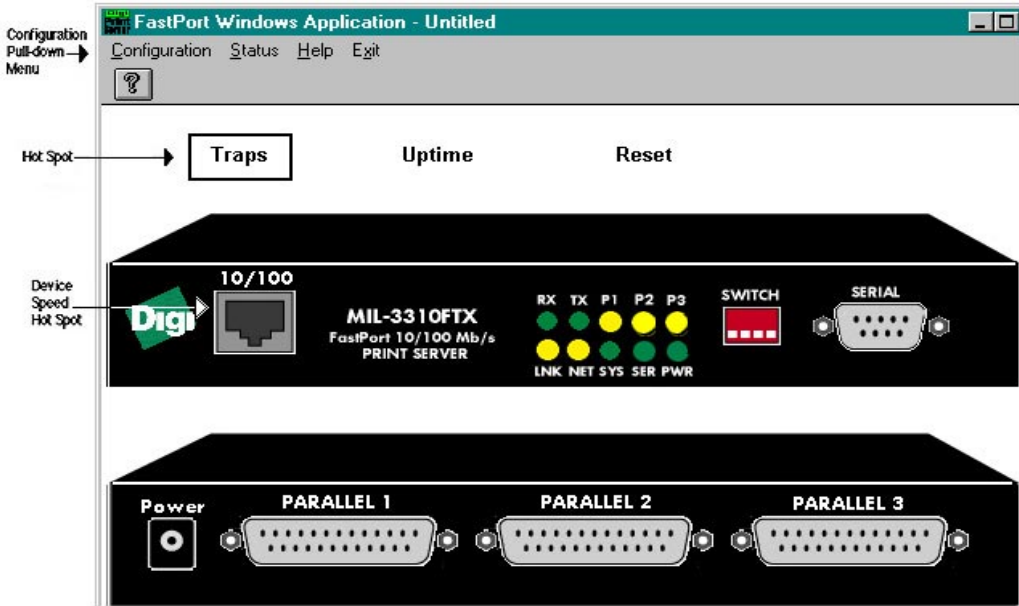

Figure 3-2. MIL-3310FTX Graphical Icon
- c. Double-click on a thumbnail to display a full-screen image of a particular SNMP device (Figure 3-2).
- c. A full-screen image appears (Figure 3-2).
Hot spots on the graphical representation of a MIL-3000FTX graphic (Figure 3-2) are used to gain status of the device. Use the mouse to highlight the selection (a block around the area appears), and click on it to obtain the information. Hot spots function the same way on all FastPorts.
- **Device speed:** This option is the RJ-45 portion of the graphic (on the top, left-hand side of the unit. Figure 3-2). When this hot spot is clicked on, this parameter displays FastPort’s operating speed: Either 10 Mbps or 100 Mbps.